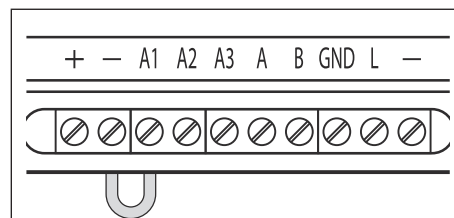

Fig. 36
2. Short out the auxiliary terminal **A1** to the - terminal with a piece of link wire, see **Fig.36**.